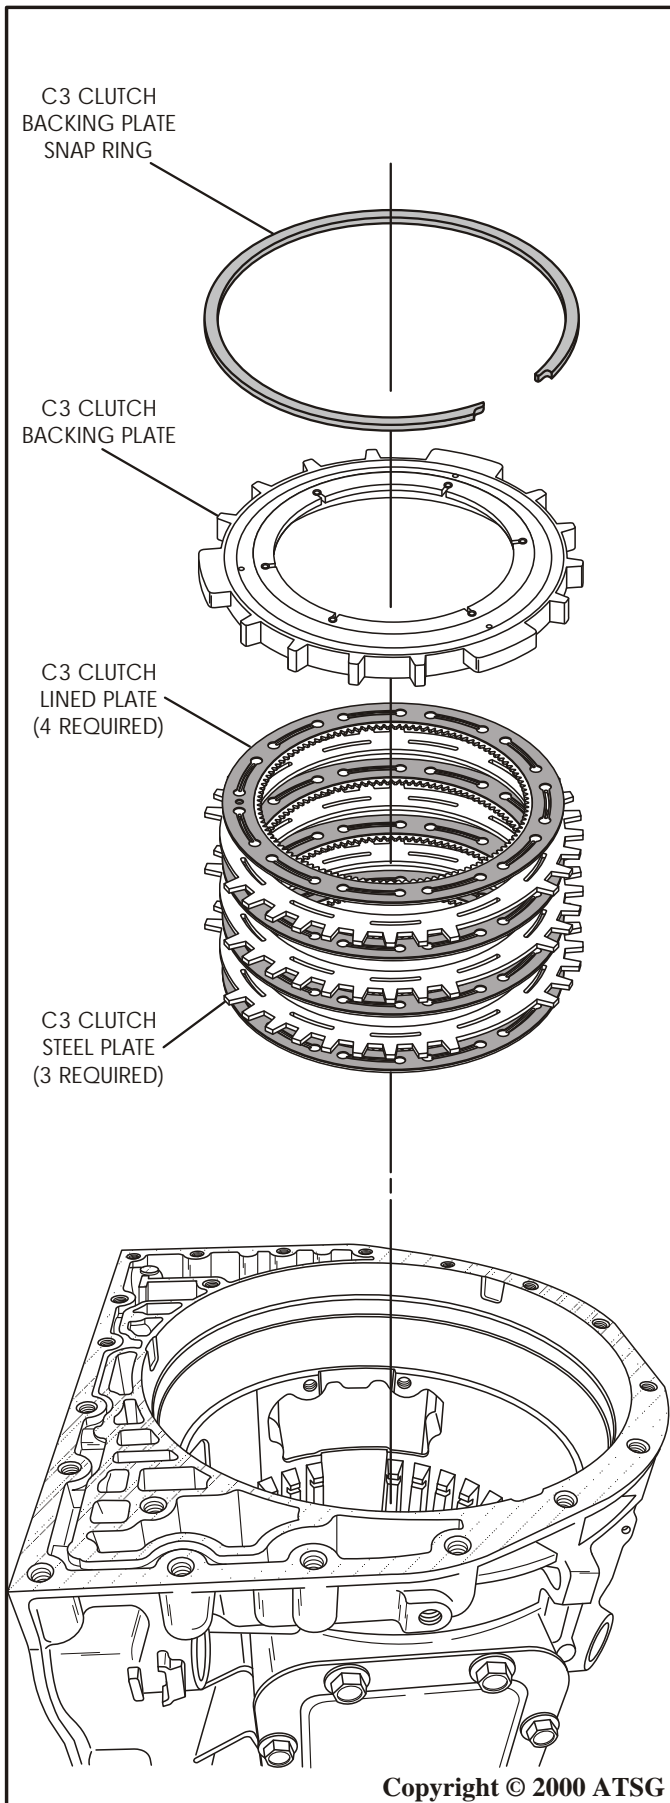

Figure 70
55. Rotate the transmission in fixture so that the front of the transmission case is facing up, as shown in Figure 70.
56. Remove the C3 clutch backing plate snap ring from the case, as shown in Figure 70.
57. Remove the C3 clutch backing plate from the case, as shown in Figure 70.
58. Remove the C3 clutch plates both the lined and steel, as shown in Figure 70.